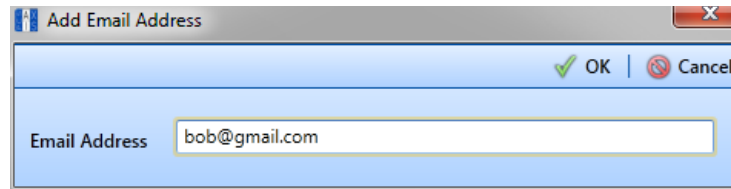

Figure 12-5. Add Email Address
- 3 Click  **Add Email** to open the *Add Email Address* dialog box. Type the user's email address in the **Email Address** field and then click  **OK**. Repeat this step as needed to add another email address (Figure 12-5).